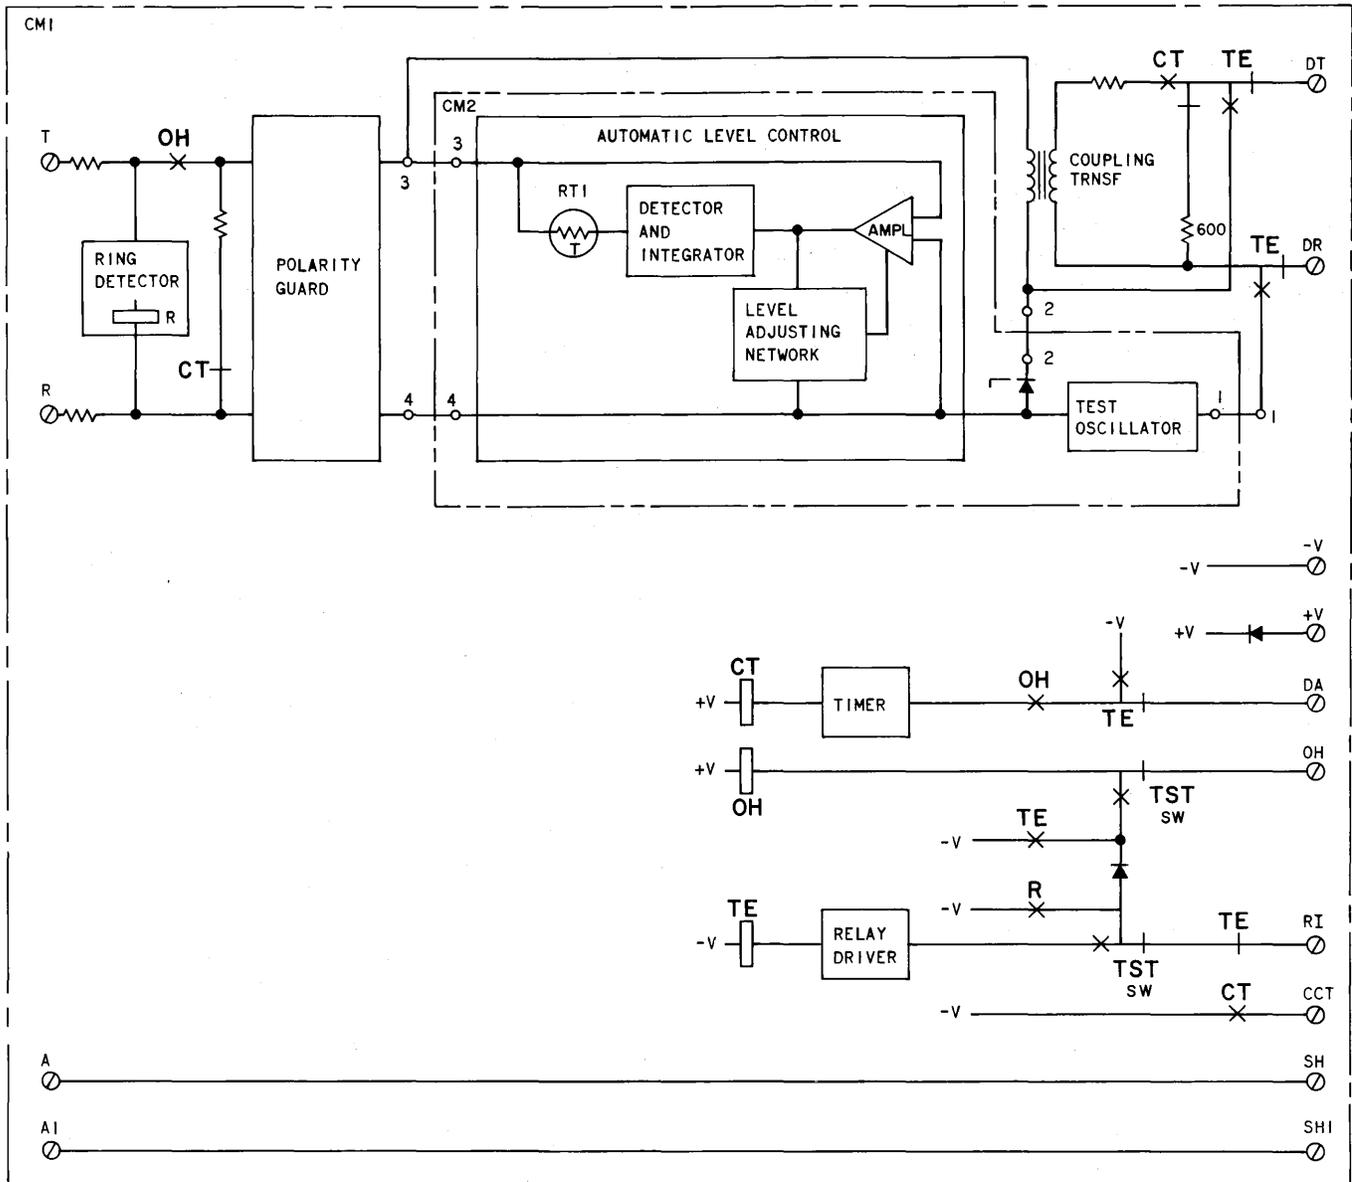

Fig. 6—1001D Data Coupler—Test Mode
2.19 The data coupler test circuit provides the means for applying a test tone to the line through the ALC circuit (Fig. 6). This permits testing the level control, the local loop, and certain control functions of the coupler. The circuit is designed to be tested remotely from the local test desk (LTD), although a data test center (DTC) or other designated test location may perform the test.